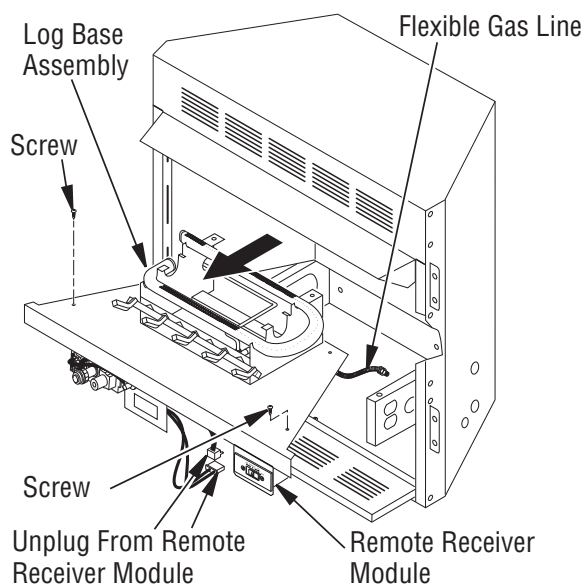

Figure 20 - Removing Log Base Assembly From Fireplace
2. Open lower louver door. Carefully pull straight out on the wire harnesses attached to right side and front of remote receiver module (see *Figure 20*).
3. Remove screws that attach log base assembly to fireplace (see *Figure 20*). Carefully lift up log base assembly and remove from fireplace (see *Figure 20*).